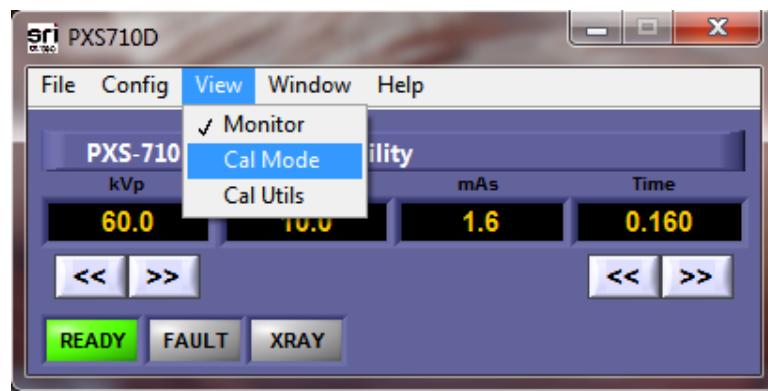

Figure 2.10
- b. From the Drop-down menu select, "**Cal Mode**" as shown in fig. 2.10 below.